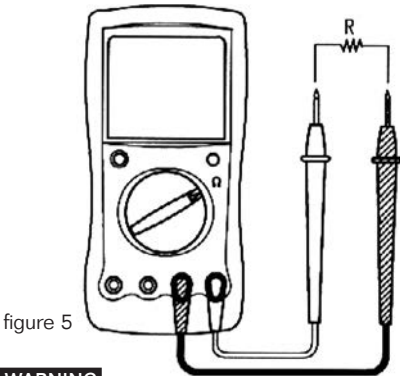

figure 5
C. Resistance Testing (see figure 5)